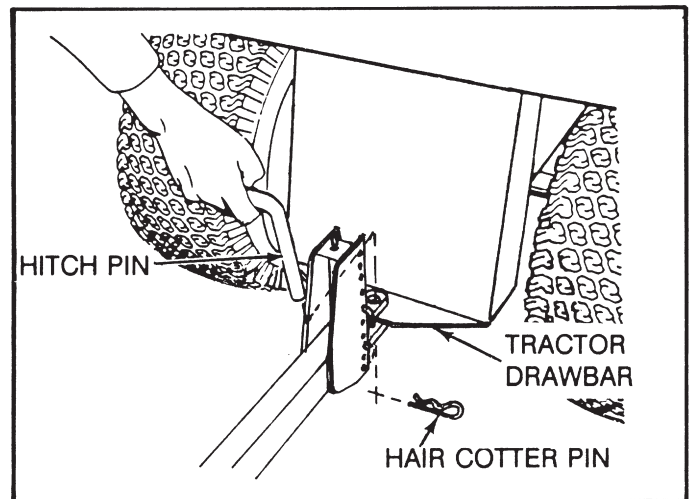

FIG. 5
- Place mower behind tow vehicle and back vehicle up to it for attaching. (See Fig. 5)